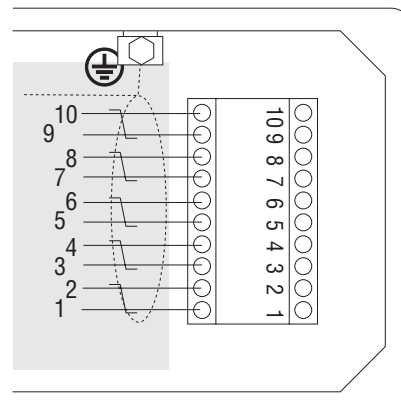

Fig. 3: DFS terminal strip terminal block
Connect resolver signal leads and the thermal motor protection (TF) to terminal block (Fig. 3):